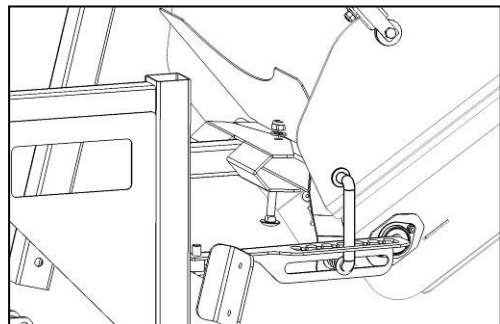

Figure 4
2. Lock the conveyor in place by placing the locking screw M16x100 through the opening and swing bar underneath (Figure 4)